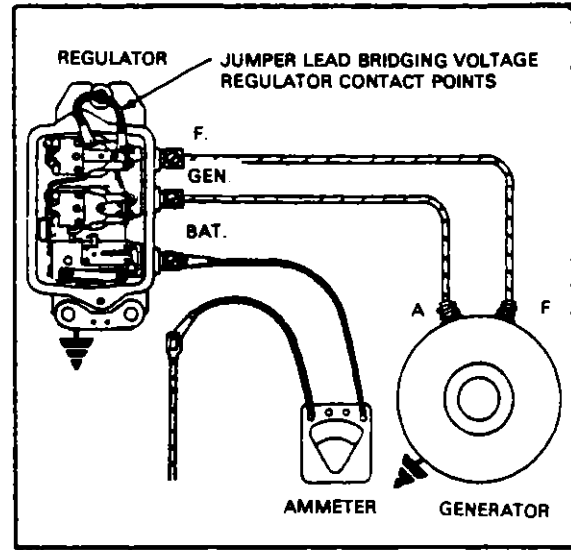

Figure 11-15. Checking Current Regulator, Jumper Lead Method
- (a) Connect ammeter into charging circuit as in Figure 11-15.
- (b) Connect jumper lead across voltage regulator points as in Figure 11-15.